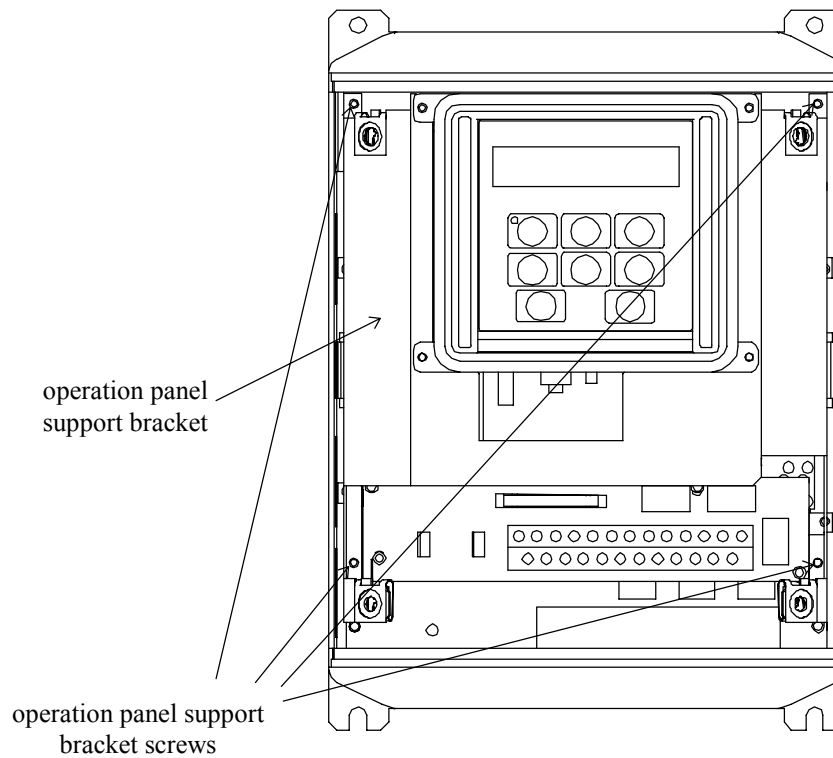

Figure 3: *EIII with front cover removed*
4. Loosen the 4 screws attaching the operation panel support bracket to the control board support bracket and remove the operation panel and support bracket as a unit (refer to Figure 3).